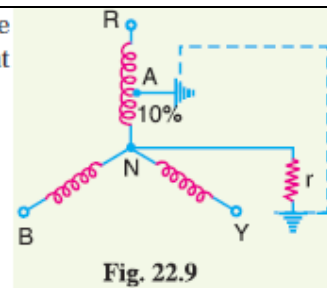

Fig. 22.9
**Solution.** Let  $r$  ohms be the earthing resistance required to leave 10% of the winding unprotected (portion  $NA$ ). The whole arrangement is shown in the simplified diagram of Fig. 22.9.